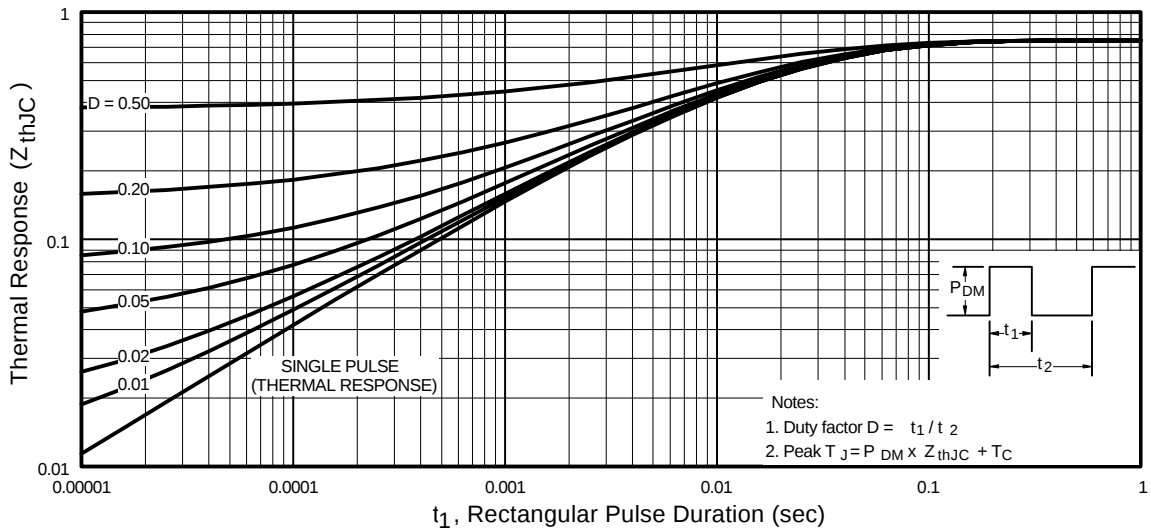

Fig 11. Maximum Effective Transient Thermal Impedance, Junction-to-Case
① Repetitive rating; pulse width limited by max. junction temperature. (See fig. 11)
② Starting $T_J = 25^\circ\text{C}$, $L = 620\mu H$